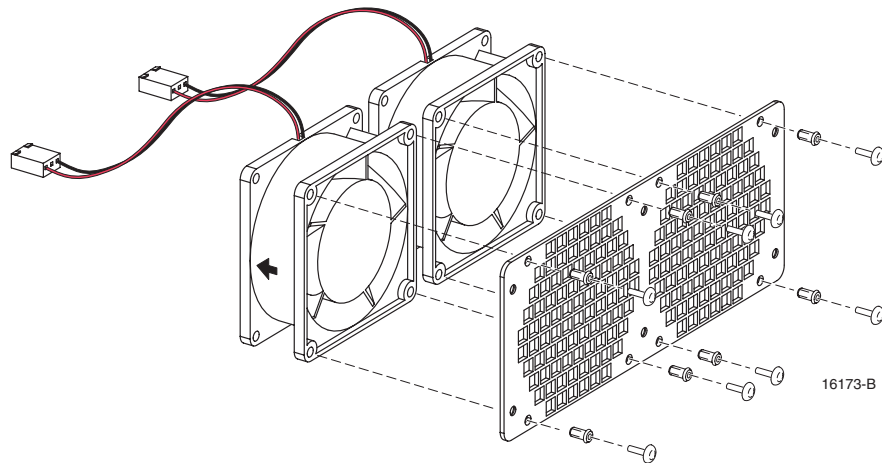

Figure 31. Removing Fan From Grill
8. Remove the four plastic rivets that secure the faulty fan to the grill by pushing outward on rivet center post until the rivet can be withdrawn from the grill as shown in Figure 31.